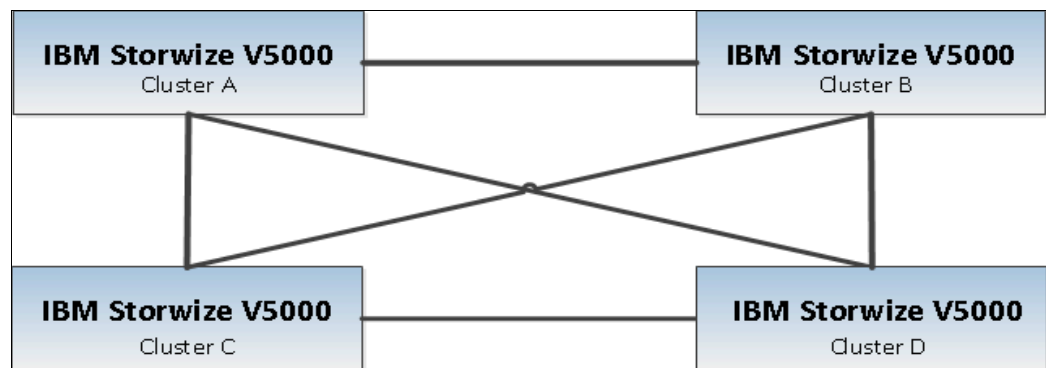

Figure 10-77 Full meshed IBM Storwize V5000
- Full-meshed topology, as shown in Figure 10-77.